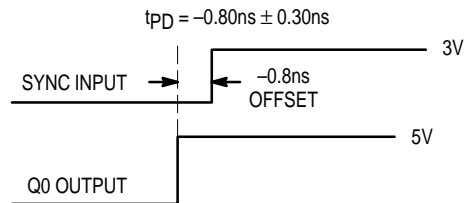

Figure 2. Depiction of the Fixed SYNC to Q0 Offset (t_{PD}) Which Is Present When a 1MΩ Resistor Is Tied to V_{CC} or Ground
- A 1MΩ resistor tied to either Analog V_{CC} or Analog GND, as shown in Figure 2, is required to ensure no jitter is present on the MC88920 outputs. This technique causes a phase offset between the SYNC input and the Q0 output, measured at the pins. The t_{PD} spec describes how this offset varies with process, temperature, and voltage. The specs were arrived at by measuring the phase relationship for the 14 lots described in note 1 while the part was in phase-locked operation. The actual measurements were made with a 10MHz SYNC input (1.0ns edge rate from 0.8V to 2.0V). The phase measurements were made at 1.5V. See Figure 2 for a graphical description.